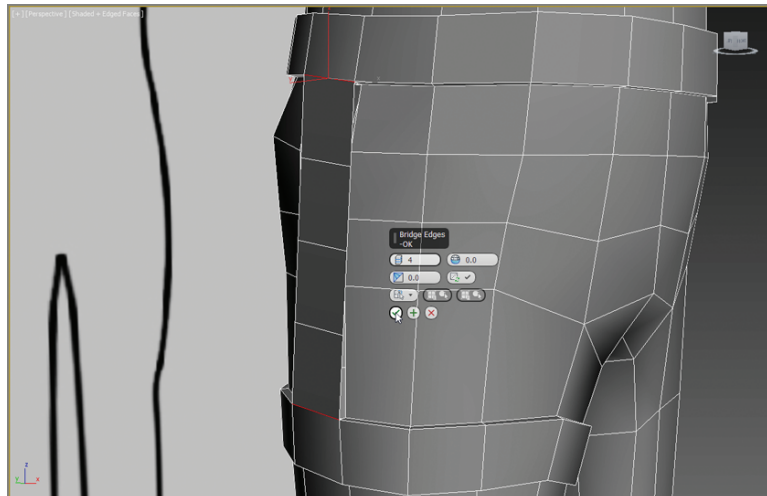

FIGURE 8.15 Select the edge at the leg strap and the edge at the belt, and use Bridge to create the polygons needed to fill out the strap.
9. Use Bridge to create the polygons by selecting the edge at the leg strap and the edge at the belt. The sides of the holster are still open, as shown in Figure 8.15.